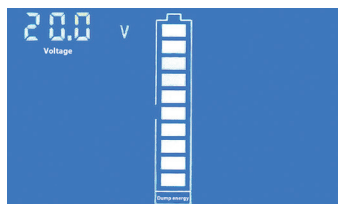
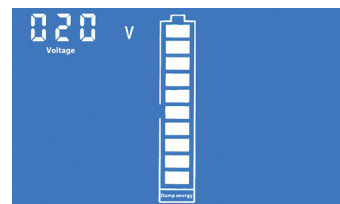

Figure 3: Full voltage setting interface (low bit)
Figure 4: Full voltage setting interface (high bit)
**Step 2:** Set the status of full / cut-off voltage, long press the button until the LCD screen displays the interface like fig. 3, then release the button.
So the setting is divided into two parts: low bit (fig. 3) + high bit (fig. 4). For example, the default full voltage is 020.0V, then the display state is 20.0V to 020V low and high cyclic switching display. If you need to set the full voltage is 199.0V then please set the low bit to 99.0V & when the cycle reaches the high bit, it will display 099V and only the highest zero bit flickers to prompt you that it can be settled. Setting the high bit to 199V represents the full voltage is 199.0V.